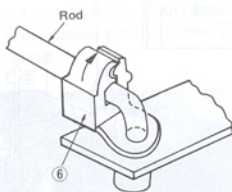

Fig. 19-15
When fitting door lock rod pin ⑥ on the rod, turn the end of the rod pin ⑥ in the arrow mark direction as shown in Fig. 19-15 and close the aperture.